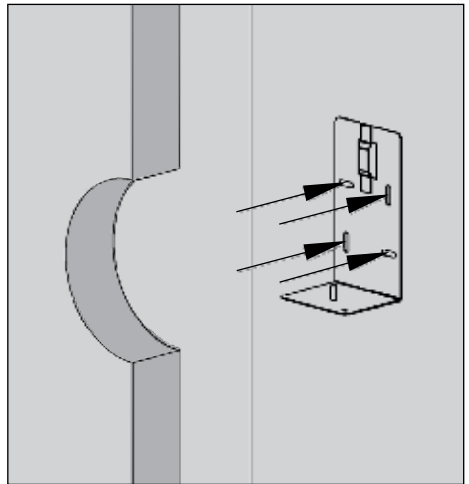

Figure 1, Fixing the Support Bracket
2. Fix the elbow support bracket (**Figure 1**) with 4 screws on the wall of the chimney.